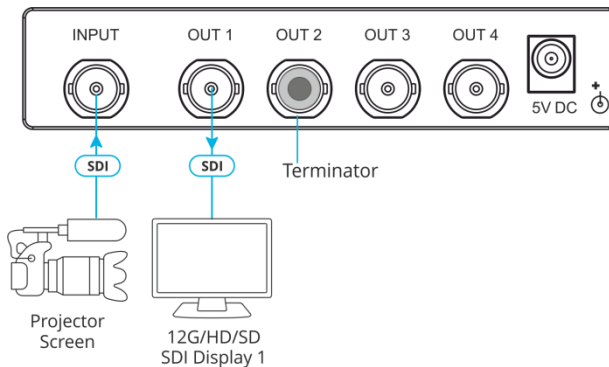

Figure 2: Connecting to the VM-4UX
3. Connect the 5V DC power adapter to the power socket and connect the adapter to the mains electricity (not shown in Figure 2).